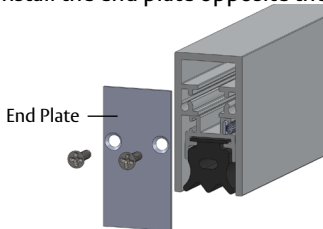

Figure 4 - Properly Installed End Plate
3. Install the end plate opposite the plunger, with the “This Side In” sticker towards the ADB, using the end plate screws as shown in Figure 4